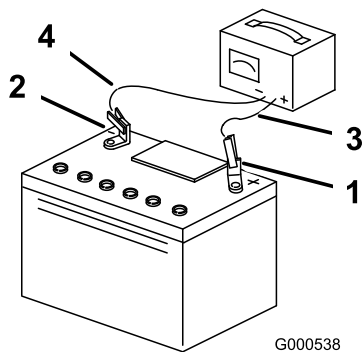

Figure 44
4. When the battery is fully charged, unplug the charger from the electrical outlet, then disconnect the charger leads from the battery posts (Figure 44).